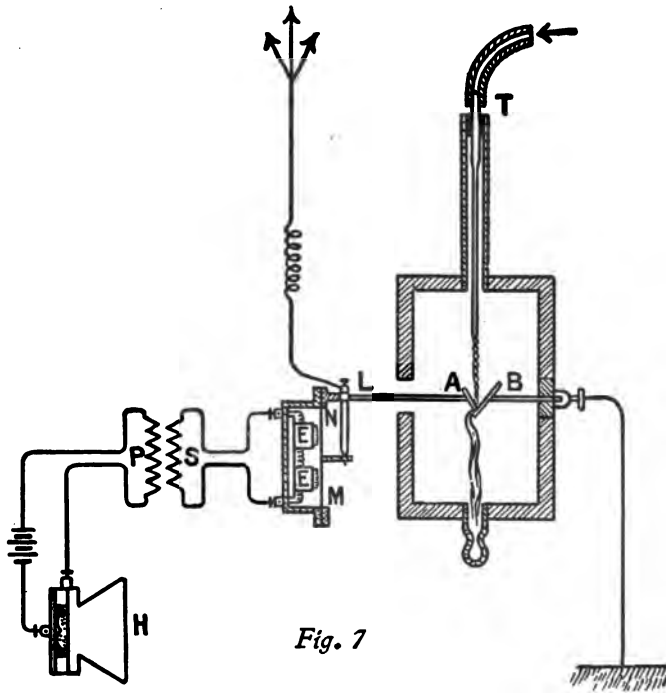

Fig. 7
This remarkable property of falling water was the basis of the Bell microphone, perfected by Chichester Bell, and which consists of two parts—the transmitter and the collector. The transmitter is used to transmit the sound-waves to the jet of water, and the method of its operation and the arrangement of its various parts may be clearly understood by examining the diagram (Fig. 7). Upon the movable electrode (A) the jet of water issuing from the tube (T) falls from a height which may be regulated and at a given pressure. When one speaks into the mouthpiece (H) of the microphone the vibrations of the center of the diaphragm are increased by the induction-coil (P S), and are transmitted to the movable electrode (A), which they set in vibration, giving little shocks to the jet of falling water. These shocks alter the cylindrical jet to a flat film, which varies in thickness and electrical resistance with the variations of sound. This variation is further intensified by the electrode (A) dipping more or less into the layer of liquid on the plate (B) as it vibrates.